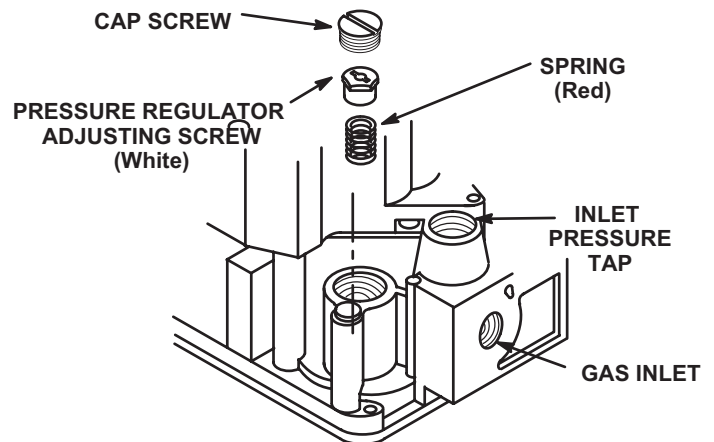
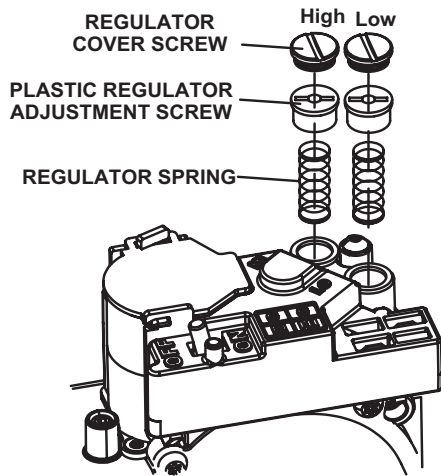
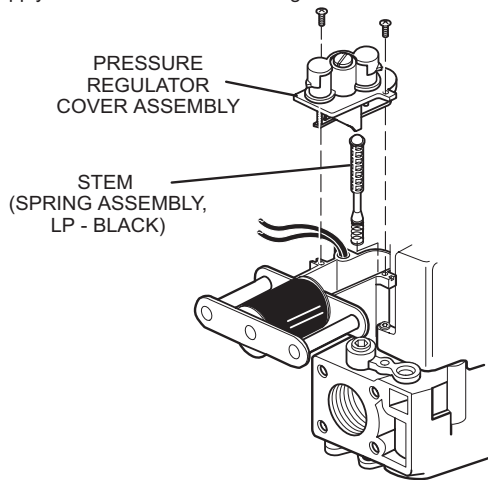

Figure 6
Figure 7
Figure 8
- 6 - Install spring kit as shown in figure 6 for single-stage gas valves, figure 7 for two-stage and four-stage White Rodgers gas valves, and figure 8 for two-stage Honeywell gas valves. Also refer to the manufacturer's instructions provided with spring kit. When installing 21Z23 kit, discard the unused spring kit.